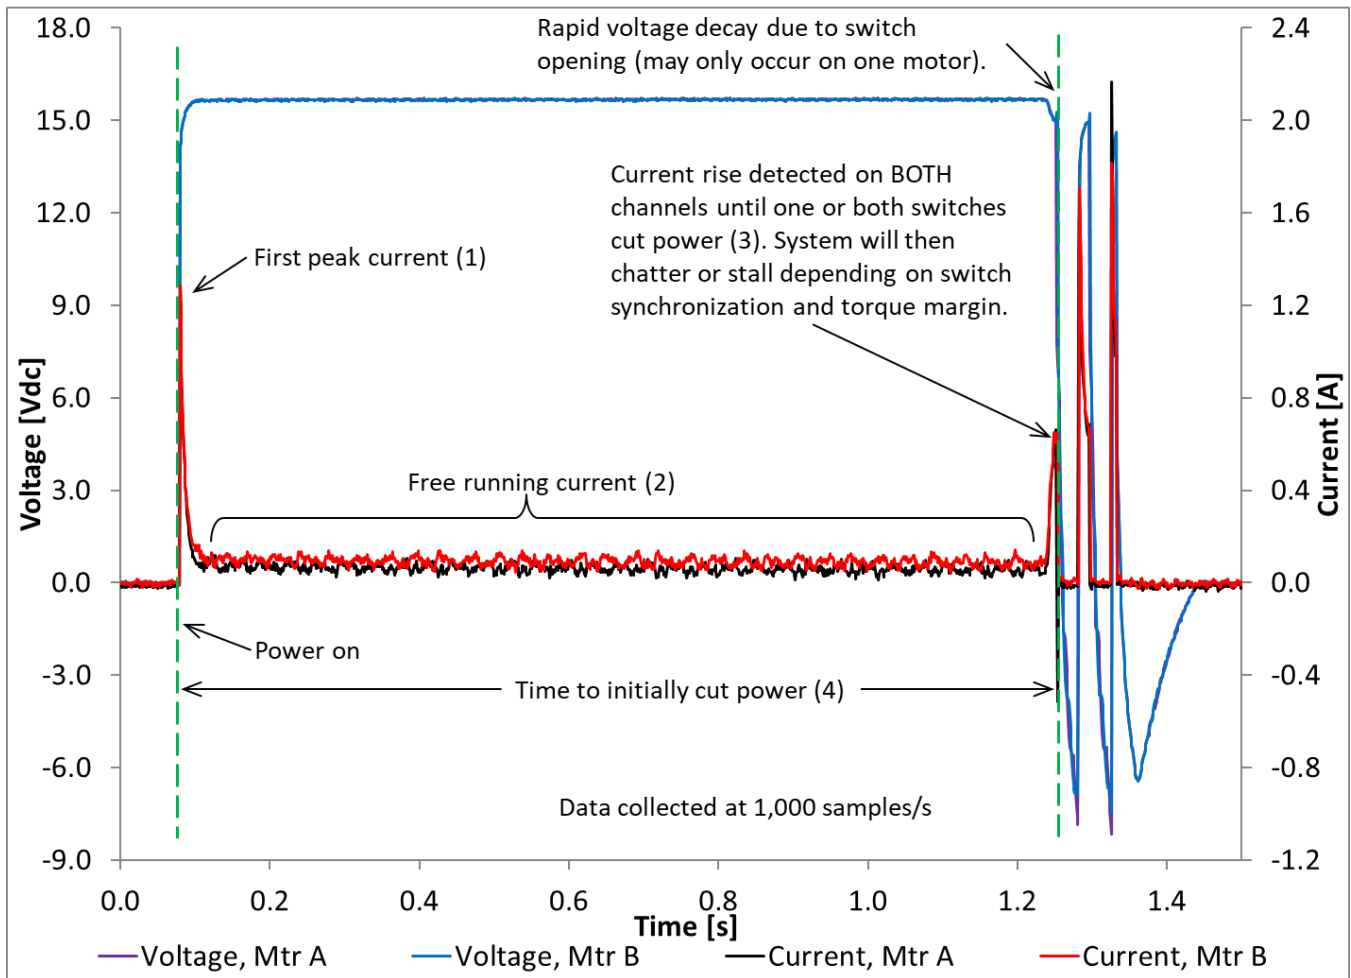

Figure 10-4: Example Set-For-Flight voltage and current profiles at NTP
10.3.4	<p>To Set-For-Flight the Lightband:</p> <ol style="list-style-type: none"> 1. Read through this entire step. <ol style="list-style-type: none"> a) Assign personnel and responsibilities prior to start of operation. 2. See Figure 10-4 and Table 10-1 for the anticipated current draw and power duration. 3. Designate a person to watch the power source output display. <ol style="list-style-type: none"> a) Manually cut power if the current limit is reached or the timer relay runs longer than specified. 4. Turn on the power source output. 5. Verify the oscilloscope trigger is active and ready to acquire data. 6. Activate the timer relay. This will send power to the motors and Set-For-Flight the Lightband. The drivetrain will free run for ~1.1 s and then the Sliding Tube will move off the Stow limit switches. This will be apparent via one or more of the following <ol style="list-style-type: none"> a) the current spikes b) the Sliding Tube begins to rapidly move off and on the Motor Bracket c) an audible chatter emanates from the Motor Bracket Assembly (the chatter is the electro-mechanical natural frequency of the Motor Bracket Assembly) <p>If the designated person needed to manually cut power, contact PSC per Section 5. A visual inspection of the Lightband may be performed, but do not change configuration.</p> <p>Caution: See note 1 below.</p>
10.3.8	<p>Figure 10-4 shows example Set-For-Flight voltage and current profiles. Complete Table 10-1 to verify all parameters are within tolerance. Single data point exceedances are acceptable. Also, a slow sample rate may alias data. Do not filter data. Contact PSC if a discrepancy is found.</p> <p>Remember to account for non-zero offsets in the voltage or current measurements.</p>